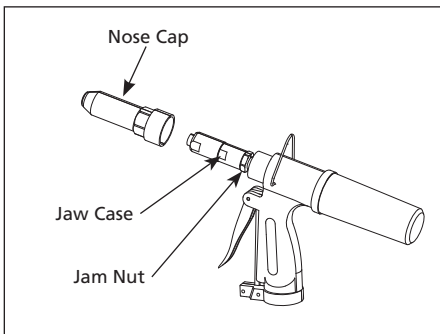

Figure 3
1. Hold rivet gun with nose cap pointing away from self. Remove chrome nose cap (See Figure 3).
2. Use a 15 mm wrench to hold the jaw case and a 17 mm wrench to loosen the jam nut (See Figure 3).